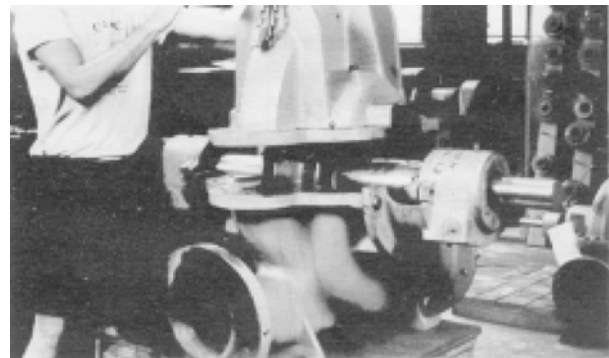

FIGURE 17 - LOWERING CASING COVER ONTO LOWER HALF
22. Lower upper half casing (2-001-7) into place (See Figure 17) and locate using the taper dowels (2-916-9) and install casing main joint bolts (2-904-9). The casing joint bolts should be tightened to the following torques: 300 ft-lb minimum for .75"-10 Ferry Cap Counter-bore screws (Grade 8), 400 ft-lb minimum for 1.0"-8 Ferry Cap Counter-bore screws (Grade 8). Bolt torquing pattern is shown in Figure 11. Before tightening bolts, be sure taper dowels are seated properly in reamed holes.